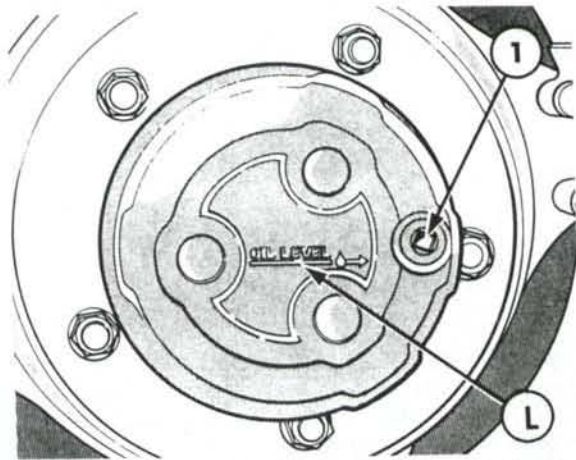

Fig. 11—View of "OIL LEVEL" mark (L) and drain plug (1) of front wheel drive front hub.
**11. R&R AND OVERHAUL.** Either front wheel hub and planetary can be serviced without removing the steering knuckle housing from axle. Support front axle housing and remove front wheel. Remove drain plug (1—Fig. 11) from planet carrier and drain oil from hub assembly. Remove the two Allen screws from planet carrier (2—Fig. 12) and lift planet carrier from knuckle housing (30).
When reassembling, drive cups for bearings (20 and 22) and oil seal (23) into hub (21). If removed, install cone for inner bearing (22) on knuckle housing (30). Install hub (21) and cone for outer bearing (20) onto knuckle housing. Assemble ring gear (14) to carrier (18) and secure with retaining ring (19). Install ring gear (14) and gear carrier (18) and tighten mounting cap screws (16) to 220 N·m (162 ft.-lbs.) torque. Install washer (13), spacer (12), sun gear (11) and snap ring (10). Stick thrust washer (9) in place on carrier (2) with "Loctite 638" or equivalent and install new "O" ring (15) in groove of hub (2). Install thrust washers (3), bearings (5), planet gears (6) and retainer plate (8), then secure with snap rings (7). Install planetary carrier assembly. Install the two Allen screws. Fill hub and planetary to the level of opening for drain/fill plug (1—Fig. 11) in carrier with "OIL LEVEL" mark (L) on carrier horizontal. Fill with Ford ESN-M2C134-D or equivalent. Install front wheel and tighten disc to hub nuts to 270 N·m (200 ft.-lbs.) torque. Disc to wheel rim nuts should be tightened to 240 N·m (177 ft.-lbs.) torque.
**12. R&R AND OVERHAUL.** Either front wheel hub and planetary can be serviced without removing the steering knuckle housing (30—Fig. 13). Support front axle housing and remove front wheel. Remove drain plug (1—Fig. 11) from planet carrier and drain oil from hub assembly. Remove the two Allen screws from planet carrier (2—Fig. 13) and lift planet carrier from knuckle housing (30).
mounting cap screws (16) to 220 N·m (162 ft.-lbs.) torque. Install washer (12) and snap ring (10). Stick thrust washer (9) in place on carrier (2) with "Loctite 638" or equivalent and install new "O" ring (15) in groove of hub (2). Install thrust washers (3), bearings (5), planet gears (6) and thrust washers (8), then secure with retaining screws. Install planetary carrier assembly and secure with the two Allen screws. Fill hub and planetary to the level of opening for drain/fill plug (1—Fig. 11) in carrier with "OIL LEVEL" mark (L) on carrier horizontal. Fill with Ford ESN-M2C134-D or equivalent. Install front wheel and tighten disc to hub nuts to 270 N·m (200 ft.-lbs.) torque. Disc to wheel rim nuts should be tightened to 240 N·m (177 ft.-lbs.) torque.